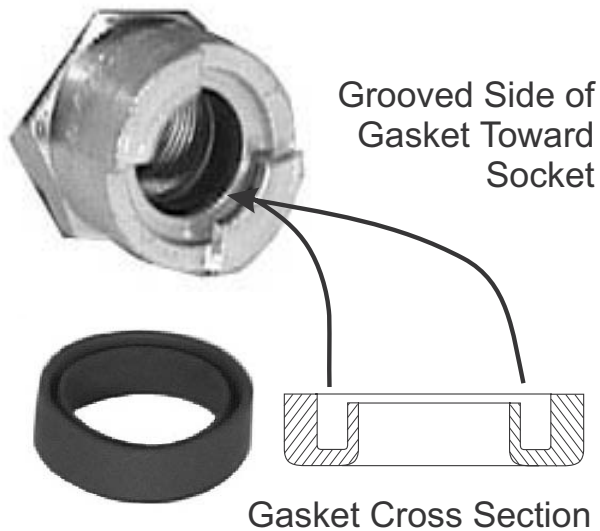

Figure 11-9. Install a new Quick Disconnect Gasket
2. Install a new gasket in the Quick Disconnect (Q.D.) Fitting (11):
- If a new Q.D. Fitting (11) is to be installed, it already contains a new gasket. Proceed to step 4.
- If the old Q.D. Fitting (11) is to be installed, proceed to step 3, and install a new gasket.
3. With the grooved face of the new Gasket toward the Quick Disconnect Fitting (11), insert the new gasket into the fitting. Check that the gasket seats properly. Refer to Figure 11-9.